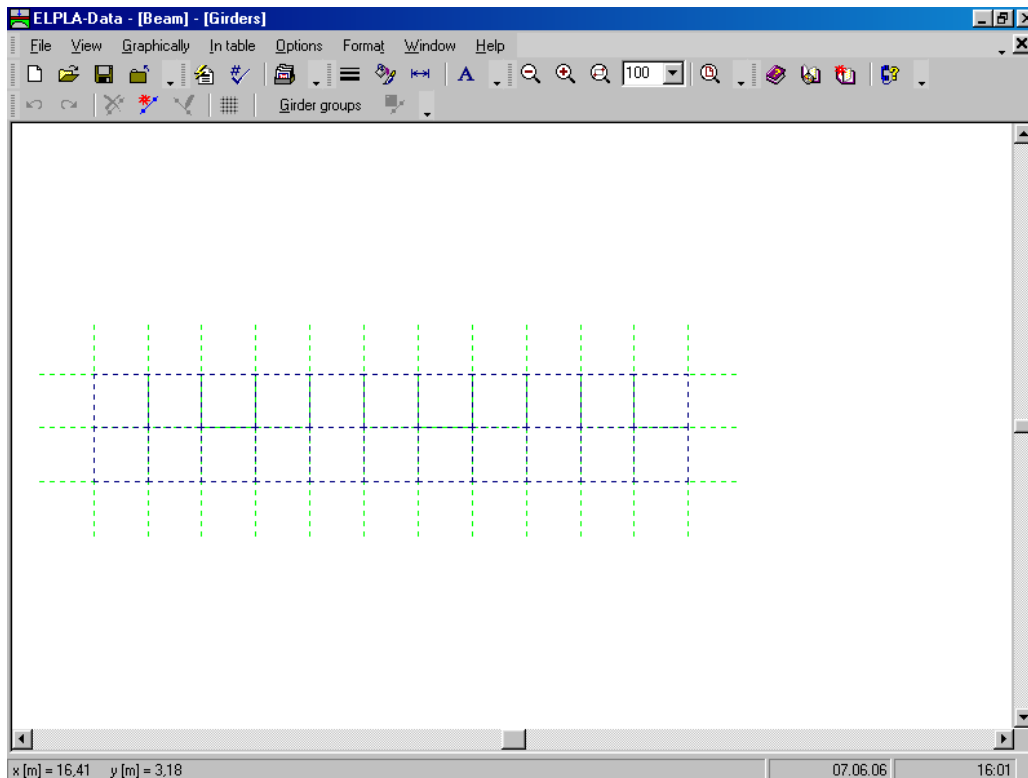
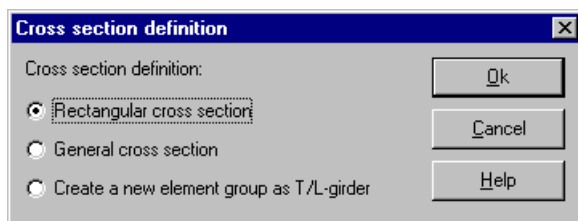

Figure 8-11 "Girders" embedded program
Figure 8-12 "Cross section definition" option box
To define the beam members, choose "Girders" command from "Data" menu of *ELPLA-Data*. The following embedded program in Figure 8-11 appears.
- Choose "Girder groups" command from "In Table" menu in Figure 8-11. The following option box in Figure 8-12 appears